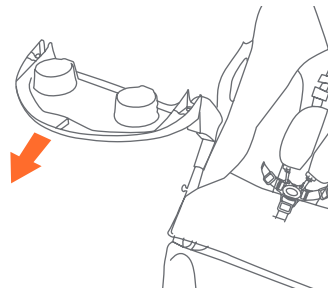

Fig. 11b
- To remove the child tray: Press the release button and rotate the tray 180 degrees and pull the tray until it released (Fig. 11b).